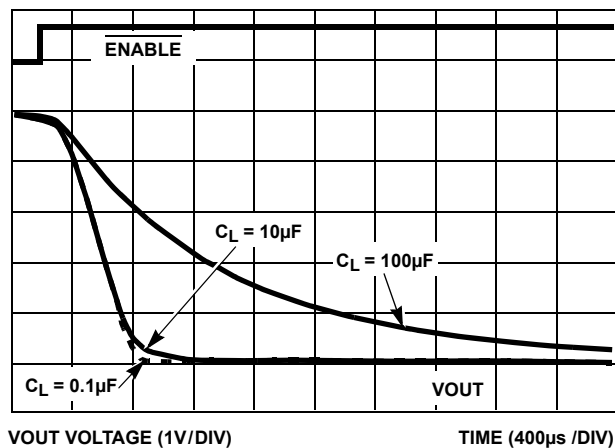

FIGURE 8. SLOW TURN -OFF vs C_{LOAD} , $R_I = 10\Omega$
The ISL6119 has two shutdown modes. When turned off with a load current less than the current regulation (CR) level the ISL6119 shuts down in a controlled manner using a 500nA constant current source controlled ramp. When latched off due to CR and the timer has expired, the ISL6119 quickly pulls down the output thereby quickly removing the faulted load from the voltage bus. See Figures 8 and 9 for waveforms of each mode.